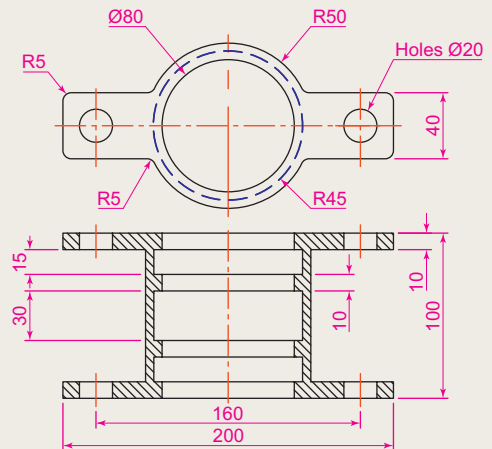

Fig. 14.44 Exercise 2
- Construct a 3D model drawing of the separating link shown in the two-view projection (Fig. 14.44). With the **Slice** tool, slice the model into two equal parts and remove the